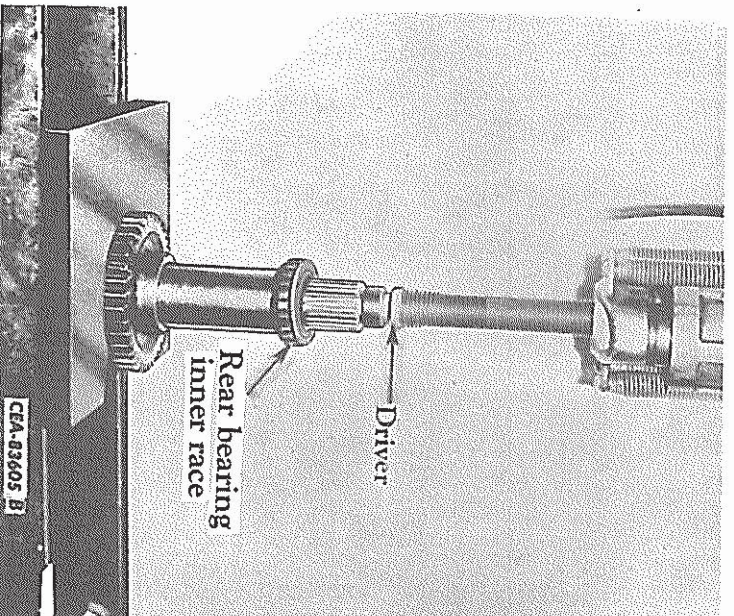

FIG. 72 — Installing the Low Range Driven Gear
32. Install the heated rear bearing inner race on the shaft until it bottoms (Fig. 72).
33. Install the gear key in the keyway closest to the spline. Position the low range driven gear (gear with the larger outside diameter) in a press so the short taper of the gear hub is up. Place the shaft in the gear aligning the gear key with the keyway in the gear and press the shaft into the gear until the shaft shoulder bottoms on the gear (Fig. 72).